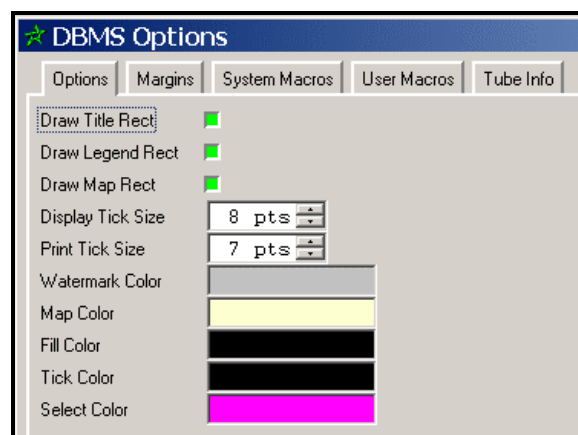

Figure 16-9. DBMS Options Dialog - Options Tab
STEP 1: Click the *Options* button in the upper left of the *DBMS* window. The *Options* dialog appears as shown partially in Figure 16-9.